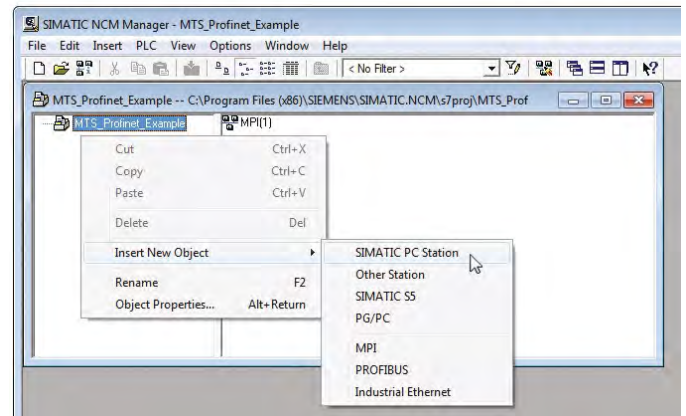

Fig. 53: Add a controller to the project (source: Siemens)
3. Add a controller to the project. For this, proceed as described below (Fig. 53):